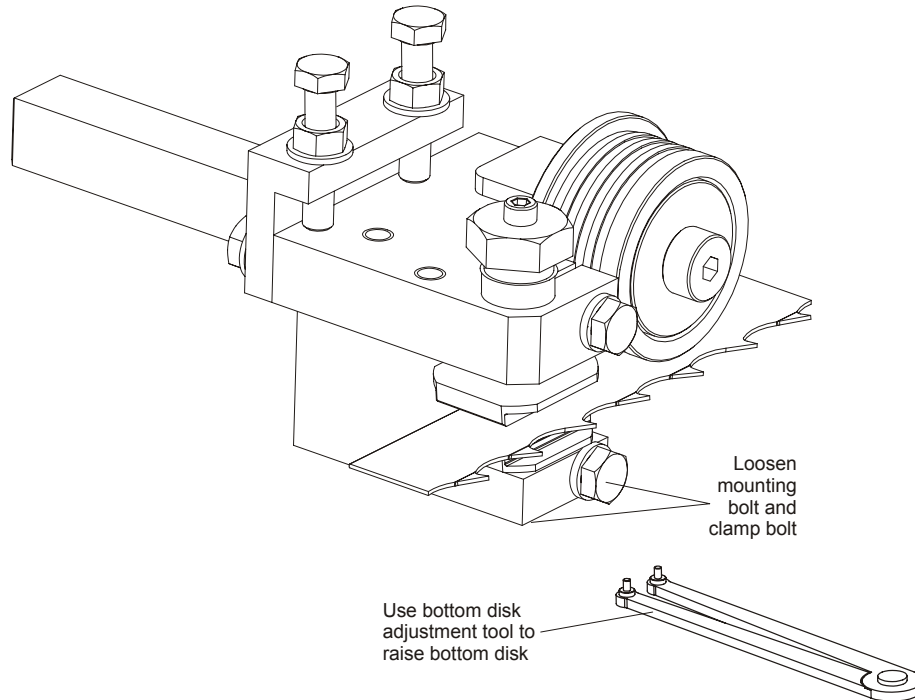

FIG. 3-1
**See Figure 3-1.** To adjust the disks up, loosen the bottom guide disk mounting bolt and clamp bolt. Use the provided adjustment tool. to raise bottom disk Retighten the bottom disk mounting bolt and clamp bolt. See Section Blade Disk Adjustment